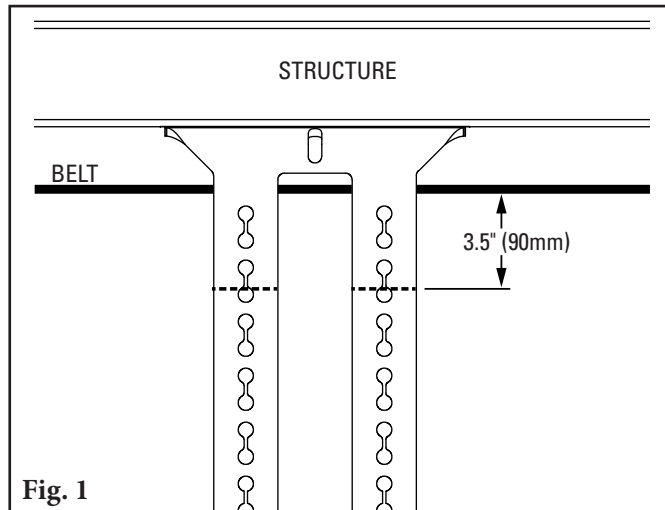

Fig. 1
- a.** For push-up installation, use a straightedge to push up against the belt to remove the slack and make a mark on the bracket for the bottom of the belt. From that mark, measure down 3" (75mm) and make a second mark (Fig. 1). The second mark is where the center of the pole should line up in Step 6.
- a. For push-up installation, use a straightedge to push up against the belt to remove the slack and make a mark on the bracket for the bottom of the belt. From that mark, measure down 3.5" (90mm) and make a second mark (Fig. 1). The second mark is where the center of the pole should line up in Step 6.